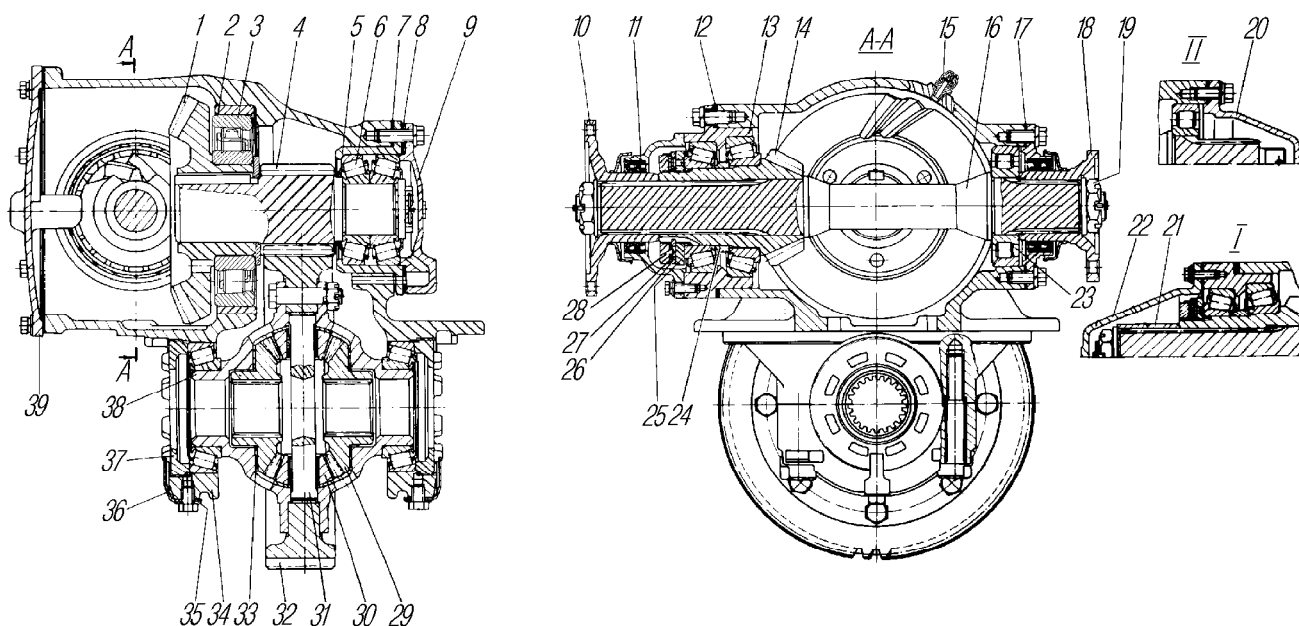
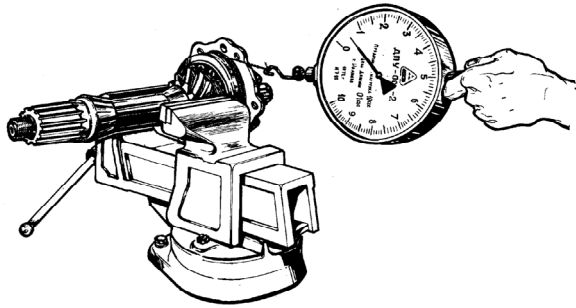

Fig. 39. Final Drive:
Fig.43. Checking Adjustment of Driving Bevel Gear Bearings
The axle's final drive is of dual type, comprising a couple of spiral-tooth bevel gears 1 and 14 (Fig. 39) and a couple of helical-tooth spur gears 4 and 32. A symmetrical bevel-type differential with four satellites is bolted to the driven spur gear.
Final drive gears and bearings are lubricated with oil filled into the axle case and final drive case up to the inspection hole level. Oil is entrapped by gears, splashed over, gets into bevel gear space of the final drive case via roller bearing 2 (see Fig. 39), and then flows down to the axle case.
Estimate thickness reduction of adjusting washer 24 (see Fig. 39) (runout value plus 0.03 - 0.05 mm preload). Unscrew the nut, remove the bearing and adjusting washer. Grind or select the washer to meet the required size, fit the washer and reassemble the bearing unit of the driving bevel gear. Torque for tightening the nuts is 450 - 500 N m (45 - 50 kgf m). Lock the lock nut by bending out one washer edge. Torque required for cranking the driving bevel gear in the bearings should be 0.6 - 1.4 N.m (0.06 - 0.14 kgf.m). Force on the dynamometer, when uncoiling the cord from the body surface, is 7.5 - 17.5 N (0.75 - 1.75 kgf) (Fig. 43).
2. Adjust preload of the driving spur gear bearings. Adjust the bearings by selecting a pack of shims 8 (see Fig. 39) to be placed under cap 9 of body 5. The torque required for cranking through the intermediate shaft should be within 0.9 - 1.5 N m (0.09 - 0.15 kgf m).
4. Mount the differential and adjust the differential bearings. Tighten the bolts fastening the differential bearing caps to 250 - 320 N m (25 - 32 kgf m). Adjust the differential bearing using nuts 37 (see Fig. 39). Upon tightening the nuts the distance between the differential bearing caps should increase by 0.04 - 0.14 mm. When adjusting, turn the differential through for self-adjusting of rollers in the bearings. The driven spur gear rim should be positioned symmetrically about the driving gear rim.
When reassembling the final drive fit the inner ring and cage of roller bearing 2 of the driven bevel gear as shown in Fig. 39.